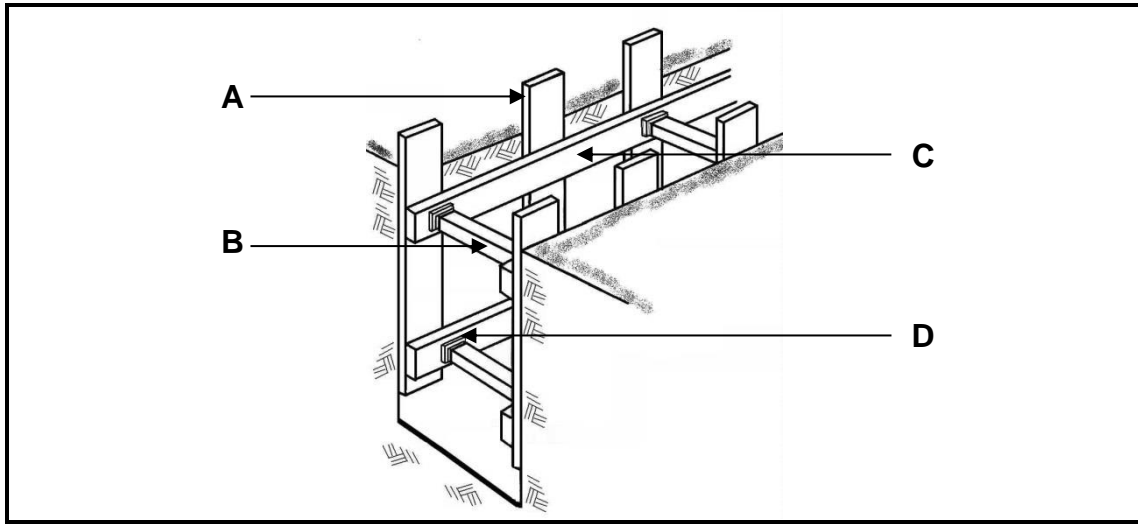

FIGURE 4.10
4.10 Answer the following questions in regard to the shuttering in FIGURE 4.10.
- 4.10.1 Identify the type of soil in FIGURE 4.10. (1)